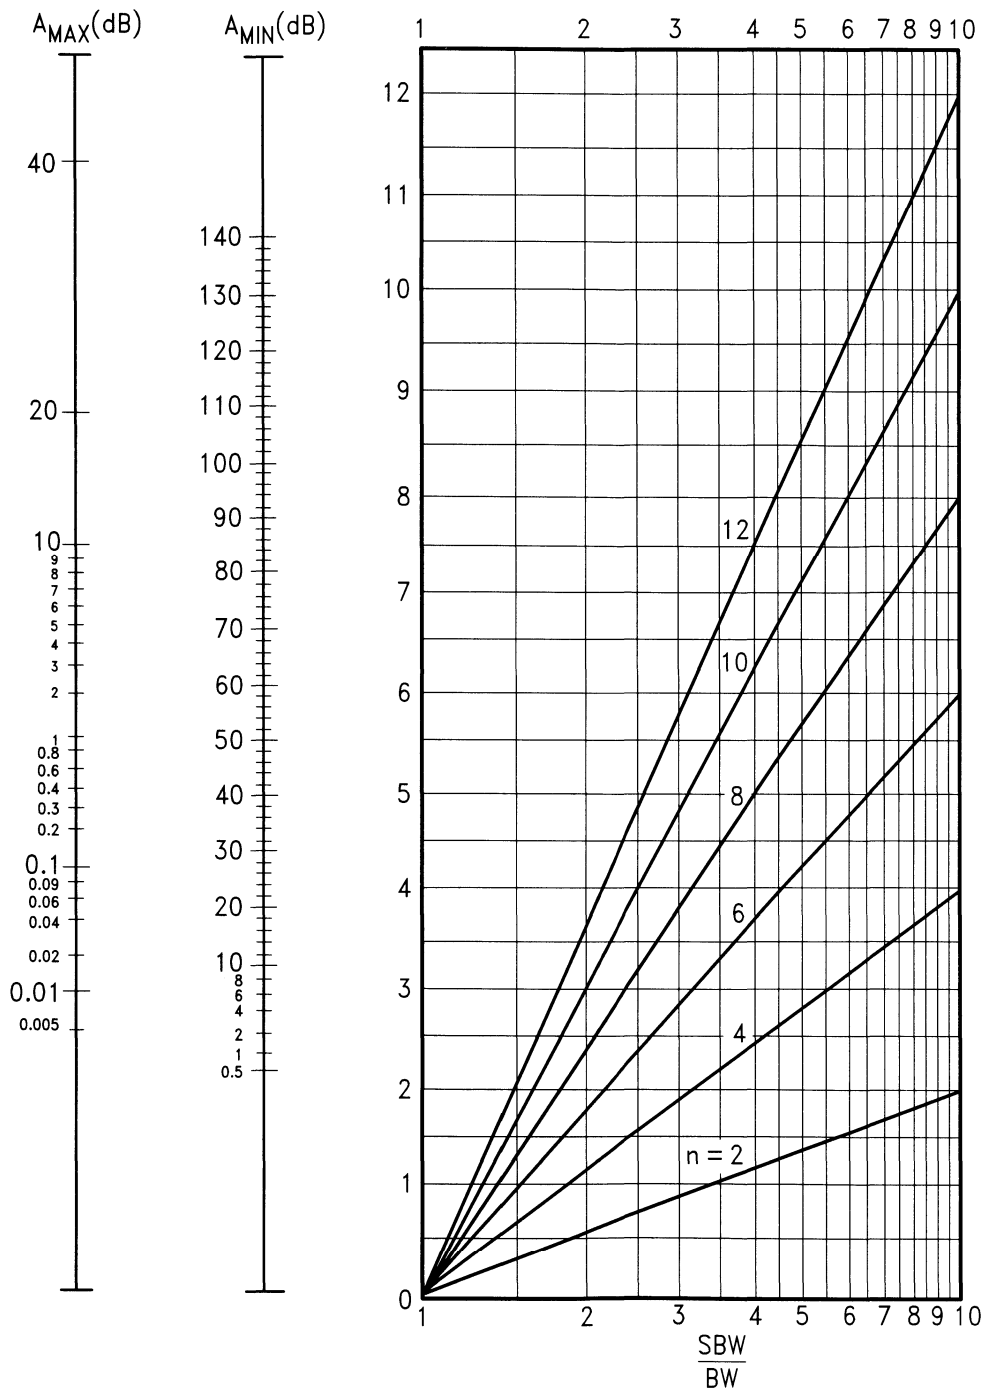

FIGURE 8. Butterworth Bandpass Filter Design Nomograph
3) Determine the filter order necessary to meet the response requirements defined above. This may be done with the aid of the nomographs in Figures 8 and 9 for Butterworth and Chebyshev filters. To use the nomographs, draw a line through the desired values on the  $A_{MAX}/A_{MIN}$  scales to the left side of the graph. Draw a horizontal line to the right of this point and mark its intersection with the vertical line corresponding to the required ratio SBW/BW. The required filter order will be equal to the number of the curve falling on or just above the intersection of the two lines. This is illustrated in Figure 10 for a Chebyshev filter with 1 dB ripple, 30 dB minimum attenuation in the stopband, and  $SBW/BW = 3$ . From the Figure, the required filter order is 6.